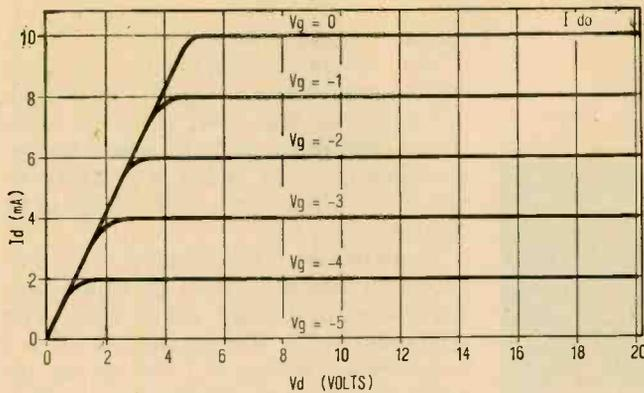

Fig. 5. Biasing the gate ( $V_g$ ) in relation to the source from 0 to  $-5$  volts results in the drain current ( $I_d$ ) and voltage ( $V_d$ ) curves at left.
**Gate Voltage Curves.** We can illustrate the effect of gate voltage by drawing a family of curves as shown in Fig. 5. Here the top curve is marked  $V_g = 0$ , signifying that gate and source are connected. The drain current rises steeply until the drain is 5 volts positive to the gate. Then the graph turns over into a straight horizontal line, indicating that a further increase in drain voltage brings no corresponding increase in current. Electrically, the line slopes upwards, but the full 15 volts shown might increase the drain current by only .0000000015 A. To scale on the graph, this would be less than the thickness of the line. The maximum drain current which can be reached is marked  $I_{do}$  on the curves. For this particular FET it is 10 mA.
The important fact shown by Fig. 5 is that provided the drain voltage is high enough to produce pinch-off, a change of 1 volt on the gate of this particular FET will change the drain current by 2 mA. So gate voltage has a very effective control over drain current.